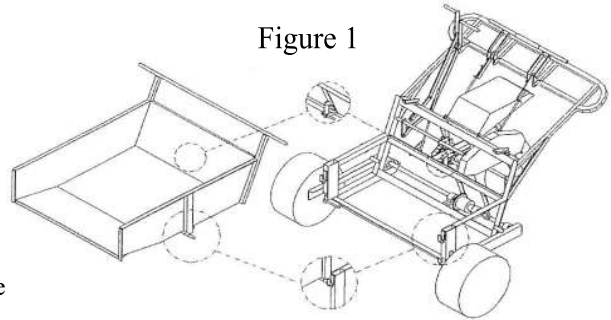

Figure 1
- Install the gravel spreader as shown in Figure 1